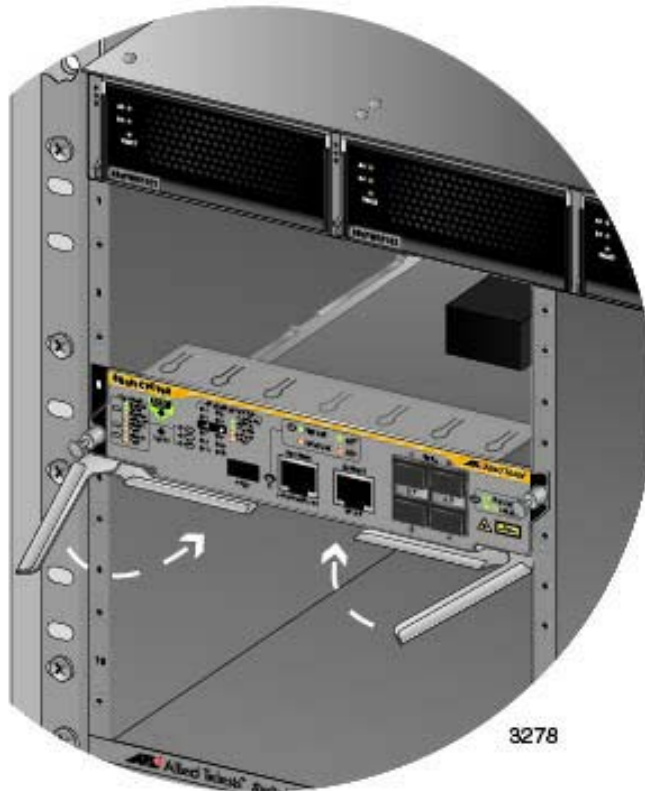

Figure 81. Closing the Locking Levers on the AT-SBx81CFC960 Controller Fabric Card
8. When you feel the card make contact with the connector on the backplane of the chassis, carefully close the two locking levers on the front panel of the controller card to secure it in the chassis, as shown in Figure 81 on page 156.